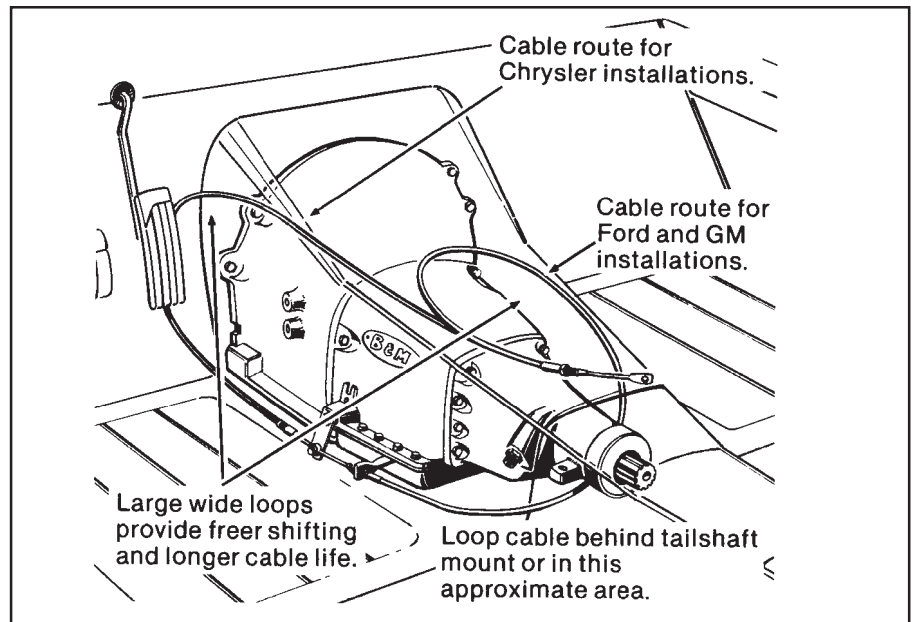

Figure 5
CABLE AS SHOWN IN FIGURE 5, AVOID SHARP BENDS WHICH WILL KINK AND DAMAGE CABLE. Use cable clamps or tie wraps to secure the cable housing to chassis to avoid contact with hot engine or exhaust system.
STEP 12. Route the shifter cable according to **figure 5**. Avoid kinks and sharp bends and route the cable away from hot engine or exhaust parts.
STEP 18. Route the shifter cable according to **figure 5.** Avoid kinks and sharp bends and route the cable away from hot engine or exhaust parts.
STEP 23. Route the shifter cable according to **figure 5**. Avoid kinks and sharp bends and route the cable away from hot engine or exhaust parts.